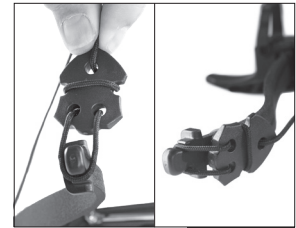

FIGURE 4
1. Attach the stringer rope to each limb tip as shown in (Fig. 4).